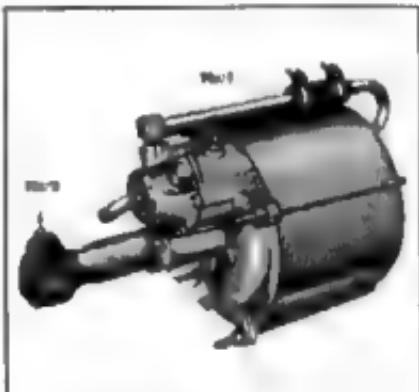

Fig. 59—Hydrovac
4. Connect bleeder tube to hydrovac bleeder valve No. 1, Figure 59, open bleeder valve and bleed until all air bubbles disappear (approximately $\frac{1}{2}$ pint of fluid). Close bleeder valve.
5. Connect bleeder tube to hydrovac bleeder valve No. 2, Figure 59, open bleeder valve and bleed until all air bubbles disappear. Close bleeder valve.
3. On all models except $1\frac{1}{2}$ and 2 ton, remove bleeder valve screw and screw bleeder tube into bleeder valve. On $1\frac{1}{2}$ and 2 ton models, connect bleeder tube to hydrovac bleeder valve No. 1, Figure 59. Place end of tube in a container having sufficient fluid to cover end of tube.
The Hydrovac (fig. 59) consists of three operating units built into one assembly; namely, the control valve assembly, the vacuum power cylinder and the brake hydraulic cylinder.